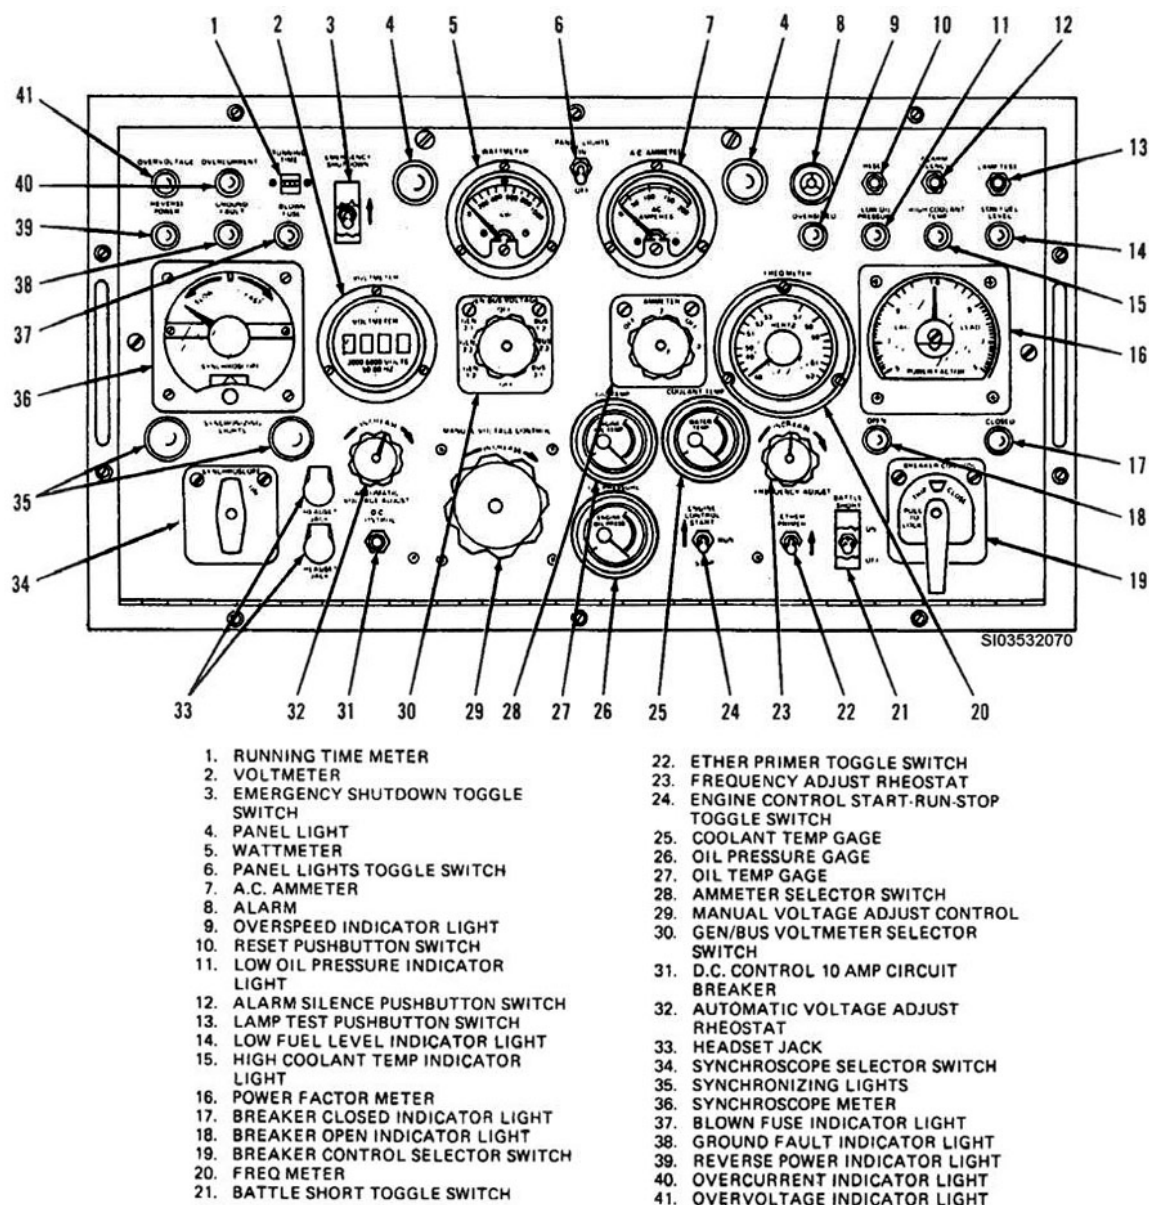

Figure 1-27. MEP-12 main control panel.
1. Record meter readings hourly. Adjust the frequency, figure 1-27, item 20, and voltage, figure 1-27, item 2, again as necessary.
2. Check and record oil pressure, figure 1-27, item 26; it should be between 25 and 80 psi.
3. Check and record coolant temperature, figure 1-27, item 25; it should be between 160 degree and 220 degree Fahrenheit.
When the customer no longer needs the electrical support of the generator, it's time to shut the unit down. Place the breaker control selector switch in the TRIP position, figure 1-27, item 19. Allow the engine to cool down for approximately five minutes or until it reaches 180 degree Fahrenheit. Place the engine control toggle switch in the STOP position to shut the unit down, figure 1-27, item 24.